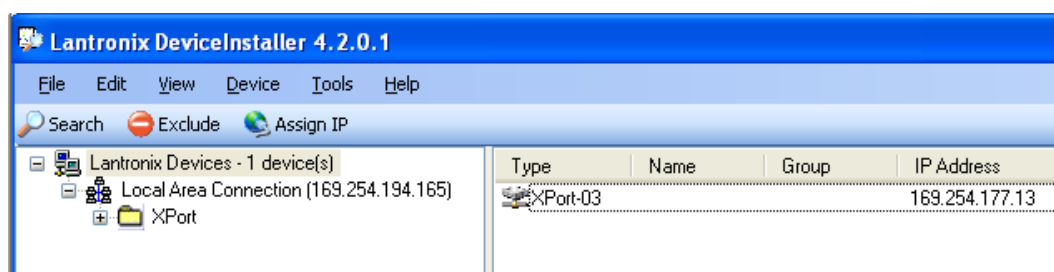

Figure 14 Device Installer XPort-03
- When initial search has completed, access the XPort-03 device listed on the right-hand pane (Figure 14) by double-clicking on it. This will bring up its details.